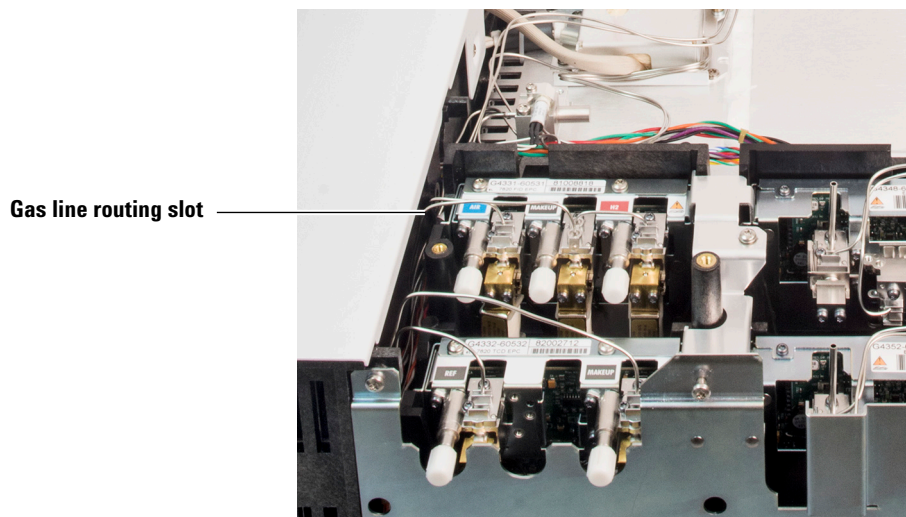

Figure 5 Detector gas line routing slot (front detector EPR slot identified)
- 5 Orient the tubing from the detector to the EPR module. (See Figure 5.)